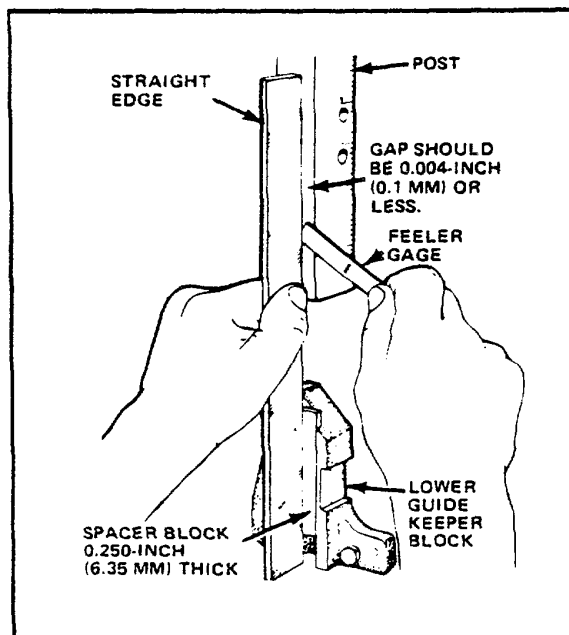

FIG. 1. ALIGN POST TO LOWER SAW GUIDE KEEPER BLOCK.
- (1) Release band tension. Remove band. Remove post saw guard and table center plate, plus upper and lower saw guides.
- (2) Re-install band over each wheel. Tension to maximum reading on tension indicator.
- (3) Shim between base mounting pads and floor until machine is level and weight rests evenly on all pads. Check by tapping with bar or hammer.
- (4) Post front should be parallel with lower keeper block's machined saw guide mounting recess. Check by placing spacer block - ground to exactly 0.250-inch (6.35 mm) thickness -- in keeper block. Place an accurate straight edge against spacer block and post. Use a feeler gage to check post clearance and parallelism to straight edge. Clearance should not exceed 0.004-inch (0.1 mm) in 4 inches (100 mm). See Fig. 1.